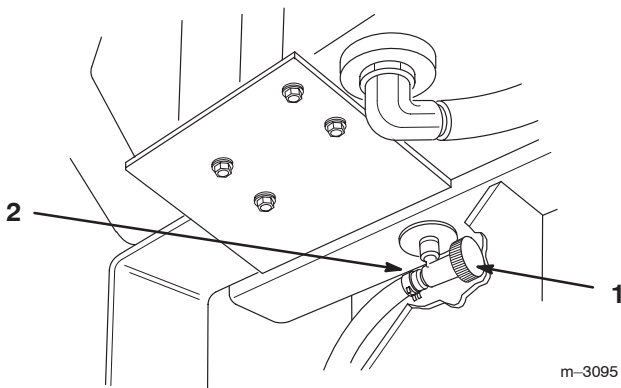

Figure 29
2. Close fuel shut-off valve at fuel tank (Fig. 29).
3. Squeeze the ends of the hose clamp together and slide it up the fuel line away from valve (Fig. 29).
4. Pull the fuel line off the valve (Fig. 29). Open fuel shut-off valve and allow gasoline to drain into a gas can or drain pan.
6. Open fuel shut-off valve at fuel tank (Fig. 29).